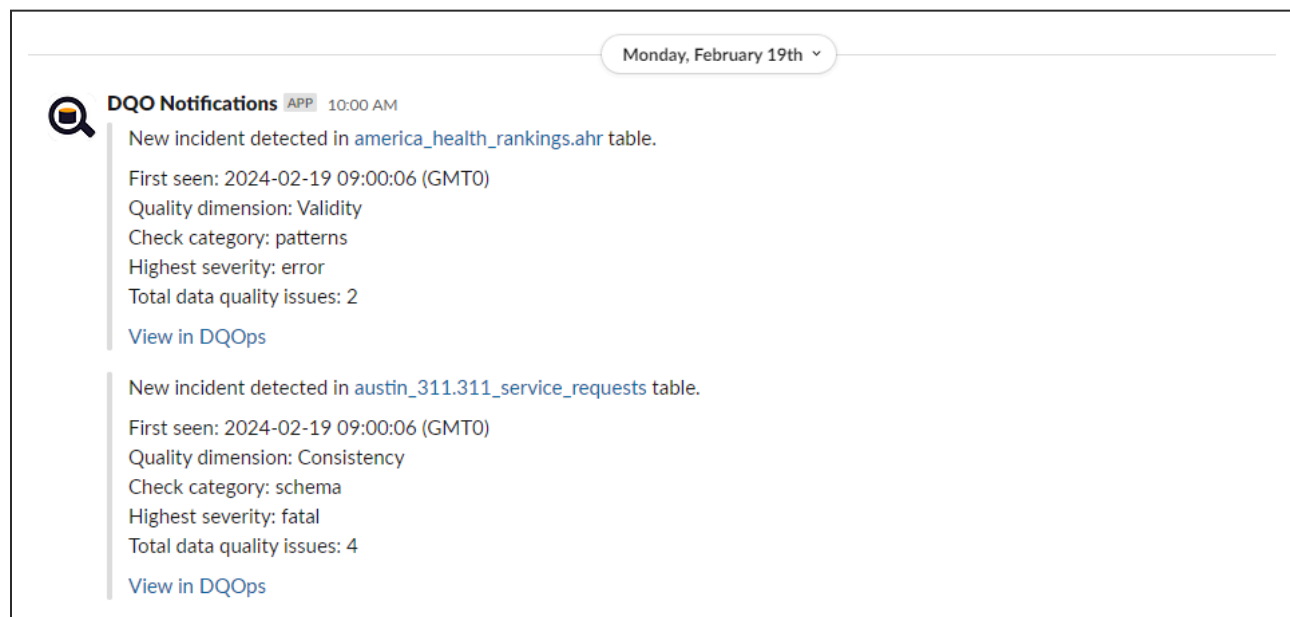

Figure 3.9. An example of DQOps notification in Slack. DQOps supports integration with Slack webhooks which are used to set up in-app Slack notifications.
- **Configure an alert notification channel.** The Data Engineering Team may require frequent or even real-time notifications about identified data quality issues. Popular notification channels include email and Slack. DQOps platform supports integration with Slack webhooks which are used to set up in-app Slack notifications, as shown in Figure 3.9.